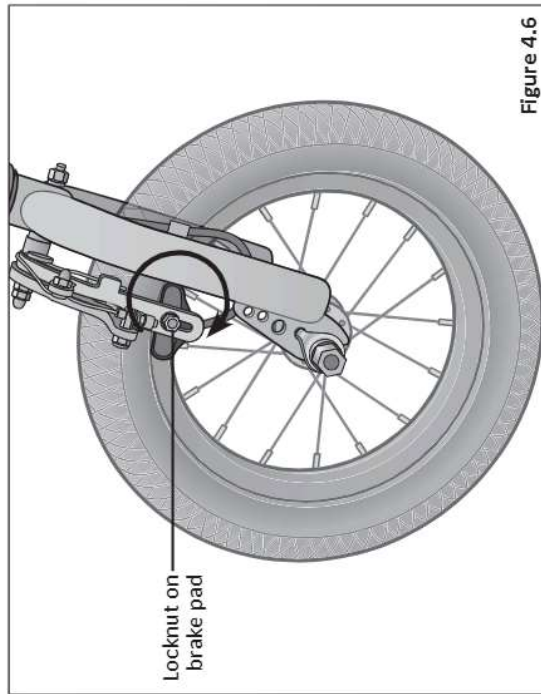

Figure 4.6
- 2** If the gap between the brake pad and wheel is uneven, adjust the position of the brake pad. **Figure 4.6**